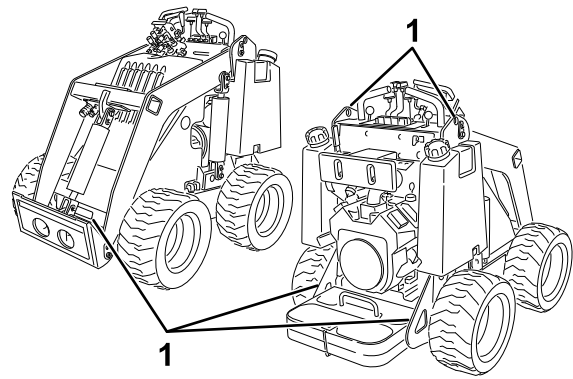

Figure 15
You can lift the machine using the tie-down/lift loops as lift points; refer to Figure 15.
8. Use the metal tie-down loops on the machine to securely fasten the machine to the trailer or truck with straps, chains, cable, or ropes (Figure 15). Refer to local regulations for tie-down requirements.